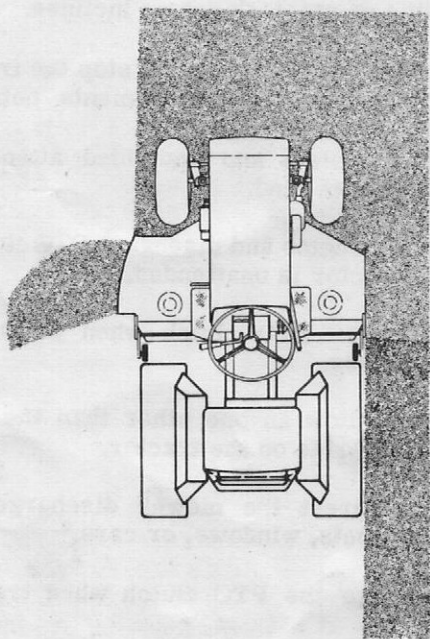
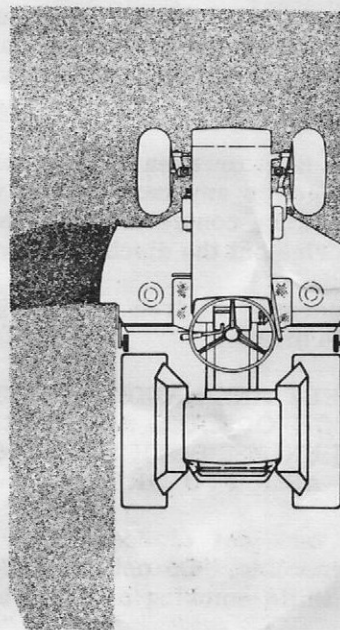

Figure 2. Discharging Grass Away from Uncut Area
Figure 3. Discharging Grass Into Uncut Area
4. Figures 2 and 3 illustrate two systems for mowing. If the grass is high or heavy, always mow to throw the clippings away from the uncut area, Figure 2. If the grass is light and more thorough mulching is desired, discharge the clippings toward the center of the uncut area, Figure 3. When mowing in this